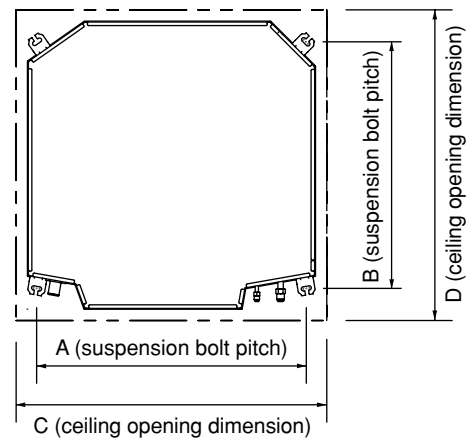

Fig. 3-33
- (2) Follow Fig. 3-33 and Table 3-3 to make the holes in the ceiling.